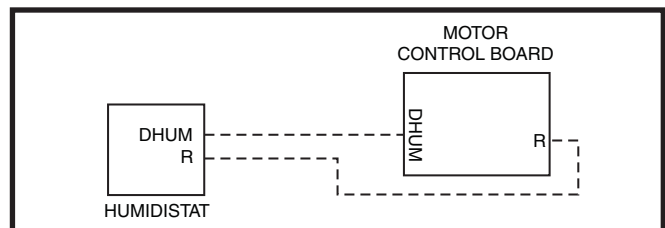

Figure 23. DHUM Wiring Configuration 7
1. If the room thermostat incorporates a humidity sensor and **DHUM** output, connect the **DHUM** on the thermostat to the **DHUM** terminal on the motor control board (Figure 23).